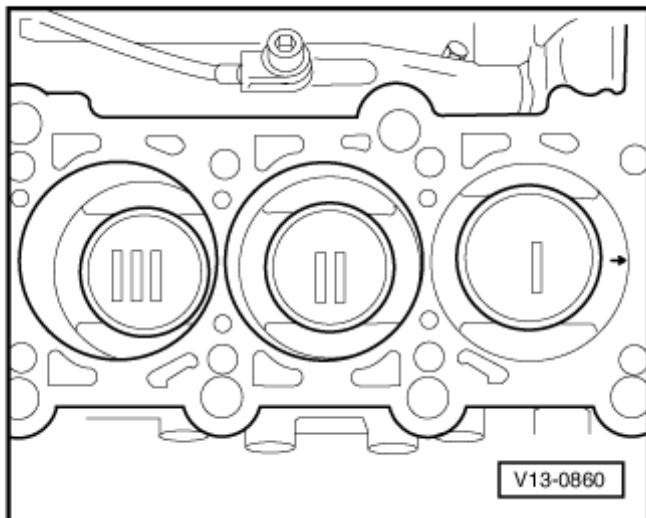

Fig. 10: Identifying Installed Position Of Piston And Piston/Cylinder Allocation
- Mark the installation position and cylinder allocation, refer to **Fig. 10**